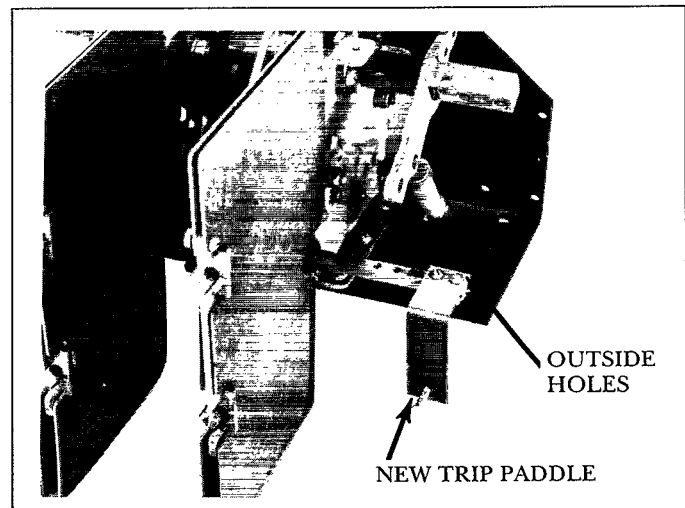

Fig. 12. New Trip Paddle Installed
Use the (2) 8-32 x  $\frac{3}{4}$ " screws, lock washers, and nuts to mount the new trip paddle provided (Fig. 12). Be sure to mount the new trip paddle in the two outside holes—NOT the holes used for the old trip paddle.